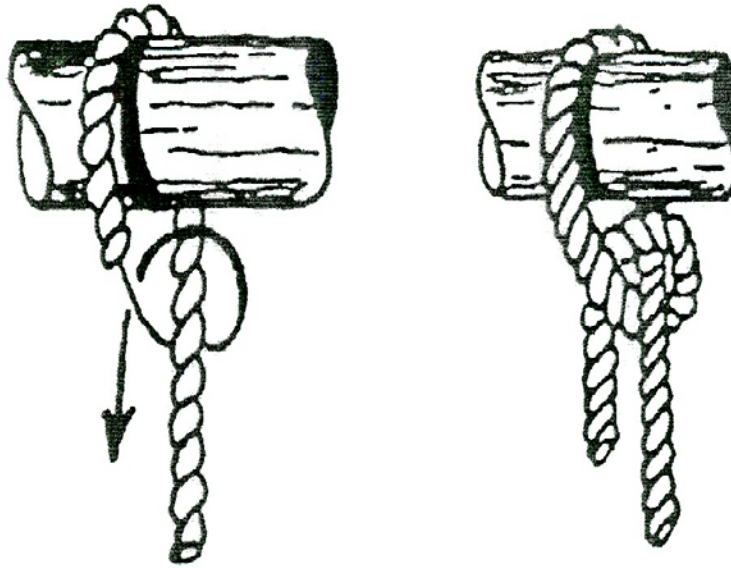

Figure 3-102
5. Tie a half hitch (see Figure 3-102).